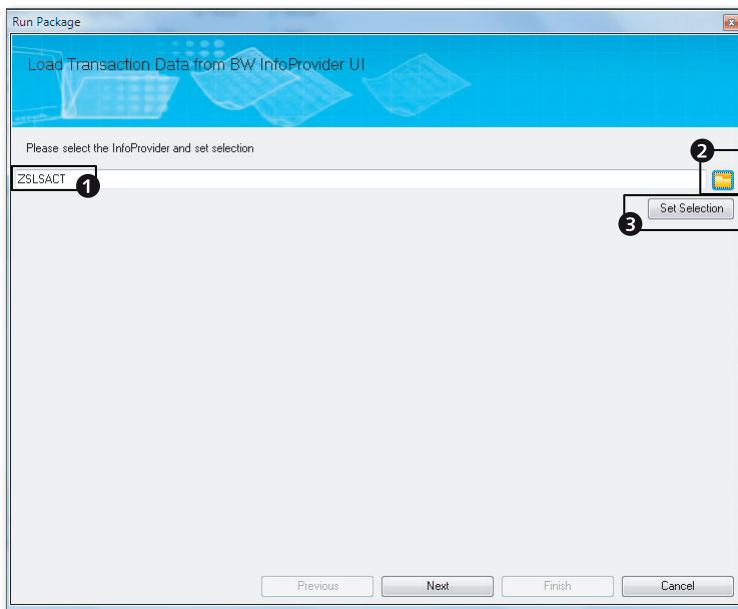
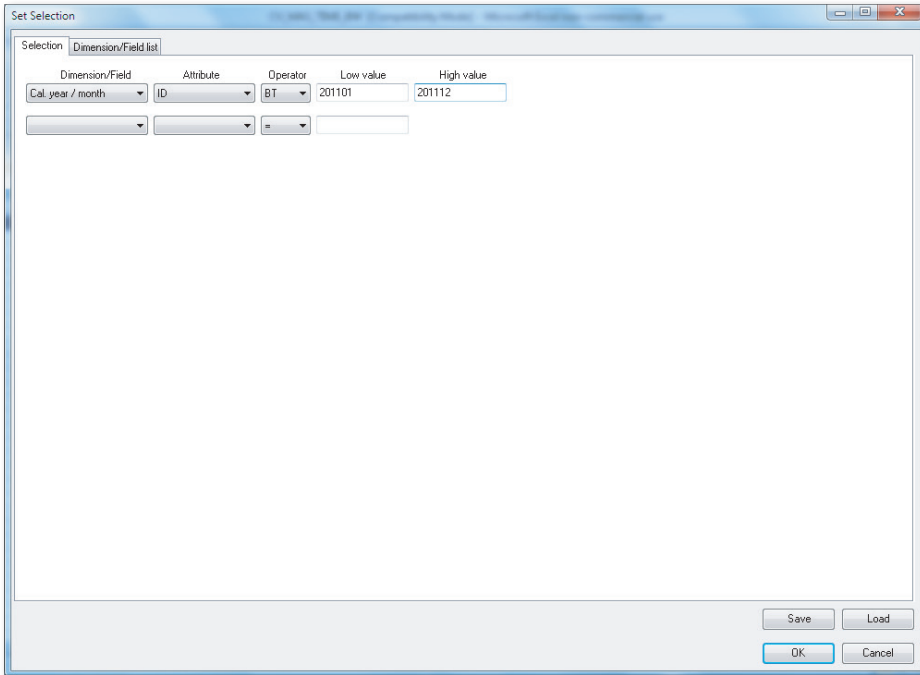

Figure 4.51 Loading Data from an InfoCube into a Model—Part D
Figure 4.52 Loading Data from an InfoCube into a Model—Part E
6. In the RUN PACKAGE dialog box, enter "ZSLSACT" as the InfoProvider from which to extract data (Figure 4.51, ❶). Alternatively, you can select the InfoProvider by clicking on the SELECT icon (Figure 4.51, ❷) and then selecting the ZSLSACT InfoProvider in the following dialog box. We want to extract the data only for the calendar year 2011, so we need to specify a criterion here to restrict the data loaded only for calendar year 2011. If you want to restrict data that is loaded from the ZSLSACT InfoProvider to the model, click on the SET SELECTION button (Figure 4.51, ❸), and enter selections. Enter the selections as shown in Figure 4.52.